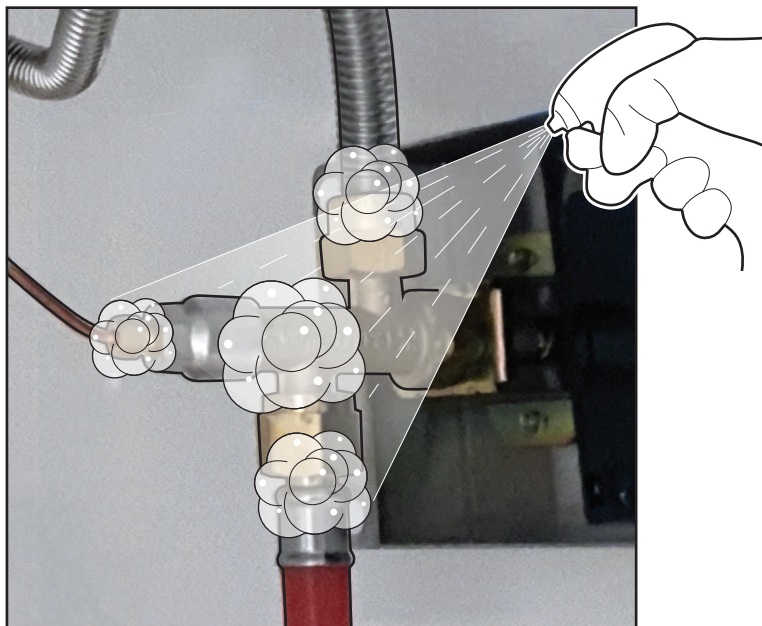

Fig. 9 Apply soap solution over all joints.
3. Check for leaks by brushing or spraying a soap solution over all gas system joints, including all valve, hose and regulator connections see fig 9.